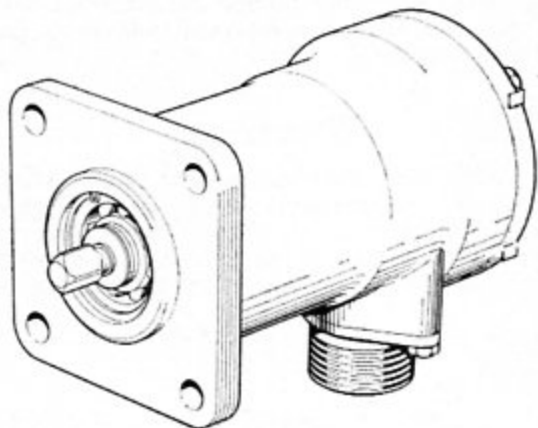

Fig. 1. General view
1. The engine speed generator, Type 2601 KGA/CP/1 (Ref. No. 6A/11143), fig. 1, is used in conjunction with an associated indicator to provide remote indication of engine speed.